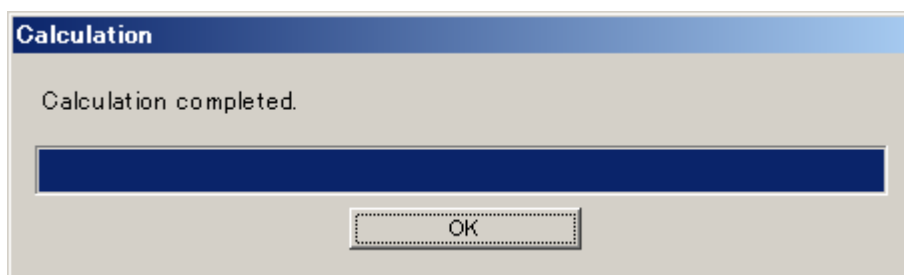

Figure 4.14.4-2 Waveform Generation Executing Dialog Box
7. When waveform pattern generation starts, the waveform generation execution screen shown in Figure 4.14.4-2 appears. When the **Cancel** button at the bottom of the screen is clicked, waveform generation stops and the setting screen is displayed again. When waveform generation completes (when "Calculation Completed" is displayed), click the **OK** button to close the waveform generation screen and return to the setting screen.